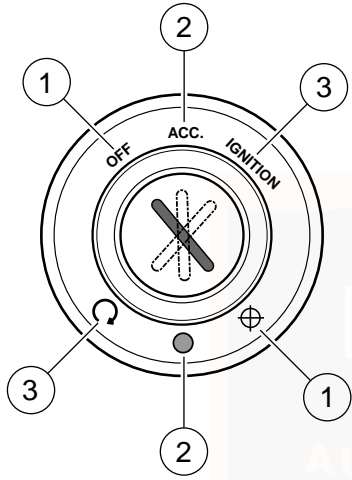

Figure 5. Ignition/Headlamp Key Switch: Sportster Models
See Figure 5. The ignition/headlamp key switch controls electrical functions of the motorcycle.
2. See Figure 5. Turn ignition/headlamp key switch to IGNITION and push the START switch to operate starter motor.
2. See Figure 5. Turn the ignition key to the OFF position to turn the ignition power completely OFF.